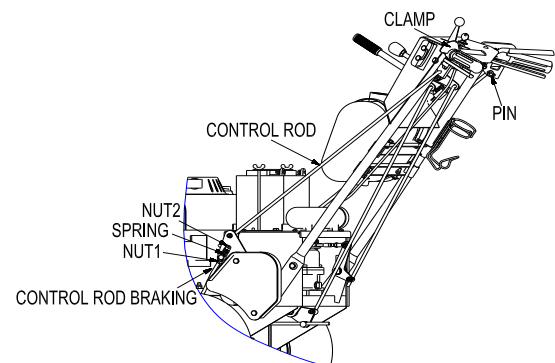

FIG 11
- Adjusting the brake force: Lift the left / right shift rod and lock it by the buckle. Rotate nut 1 and nut 2 of the brake lever, so as to compress the spring to get enough brake force. Then rotate nut 1 again, ensure that 1mm gap is maintained between nut 1 and the rod end connector. (See FIG 11)